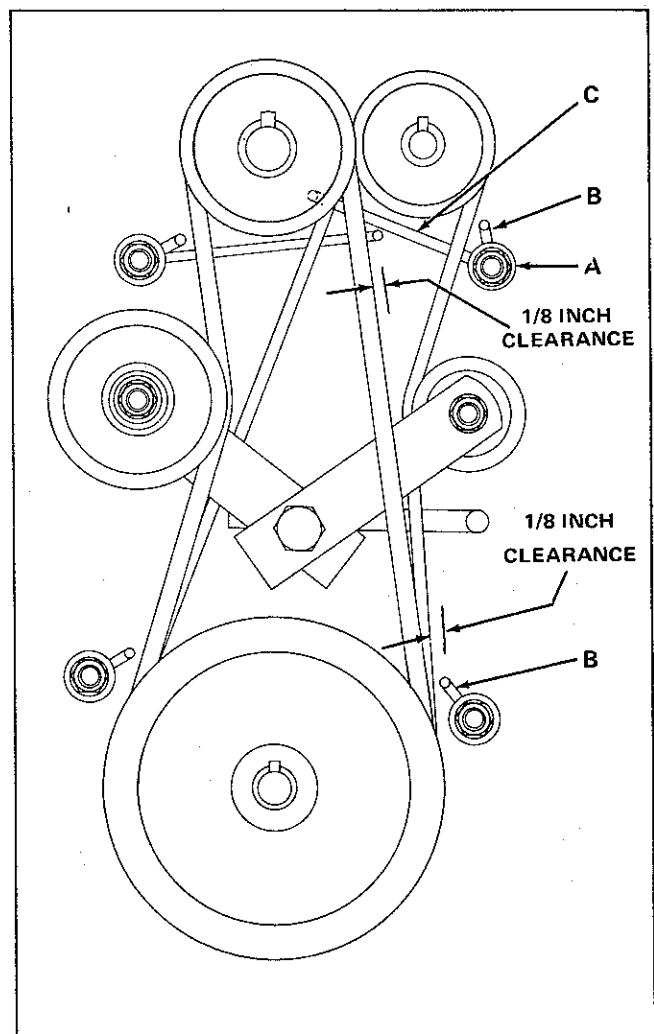

Figure 9. Belt Stop Adjustment
2. Check $1/8$ inch clearances at all six belt stop locations (Figure 9).
3. If any of the six stops need adjustment, loosen nut (A) and adjust stops (B and/or C) to obtain $1/8$ -inch clearance between stop and belt.
4. Secure nut (A) on adjusted stop and check nuts on all other stops for tightness. Tighten each as required.